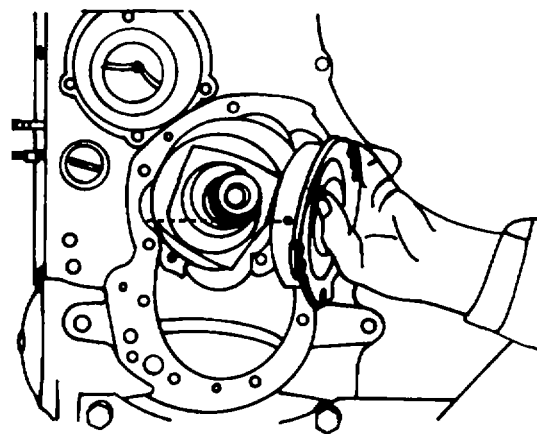

Figure 5-29. Align Oil Holes with
28. Oil the front crankshaft journal and mount the front end shield so that the oil hole points towards the injection pump cover side (figure 5-29).